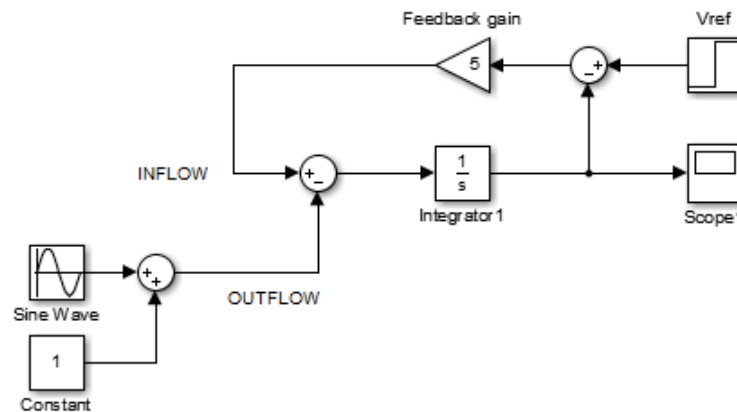

Figure 6: Tank model in SIMULINK under a constant gain feedback control of inflow to compensate for outflow disturbance.
In this section we feed the volume signal back to the inflow with a constant gain as shown in Figure 6. To do this we need to add a 'Gain' block and a 'summing junction' block, both
- Construct the block diagram in Figure 6 and simulate the response for different values of the feedback gain, integrator initial condition, sine wave frequency, offset, and reference volume level.